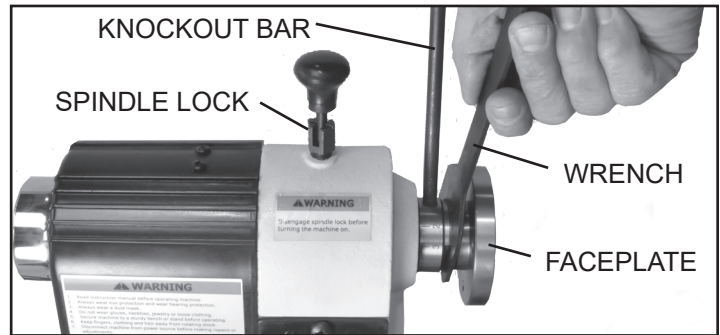

FIG. 10
2. Secure the faceplate to the spindle with the supplied wrench. Use the knockout bar in one of the spindle collar holes to keep the spindle steady during faceplate tightening. FIG. 10.